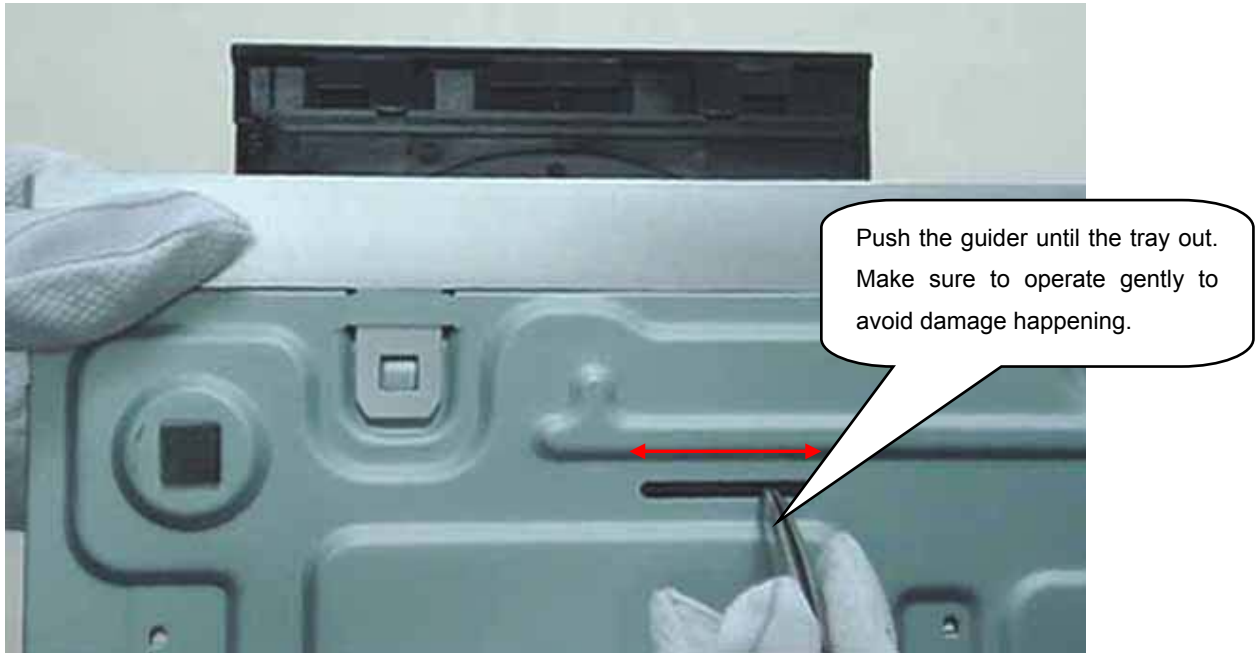

Figure 3
Step3: If the tray can't open in normal way, you can make it through the instruction as below (Figure 3).